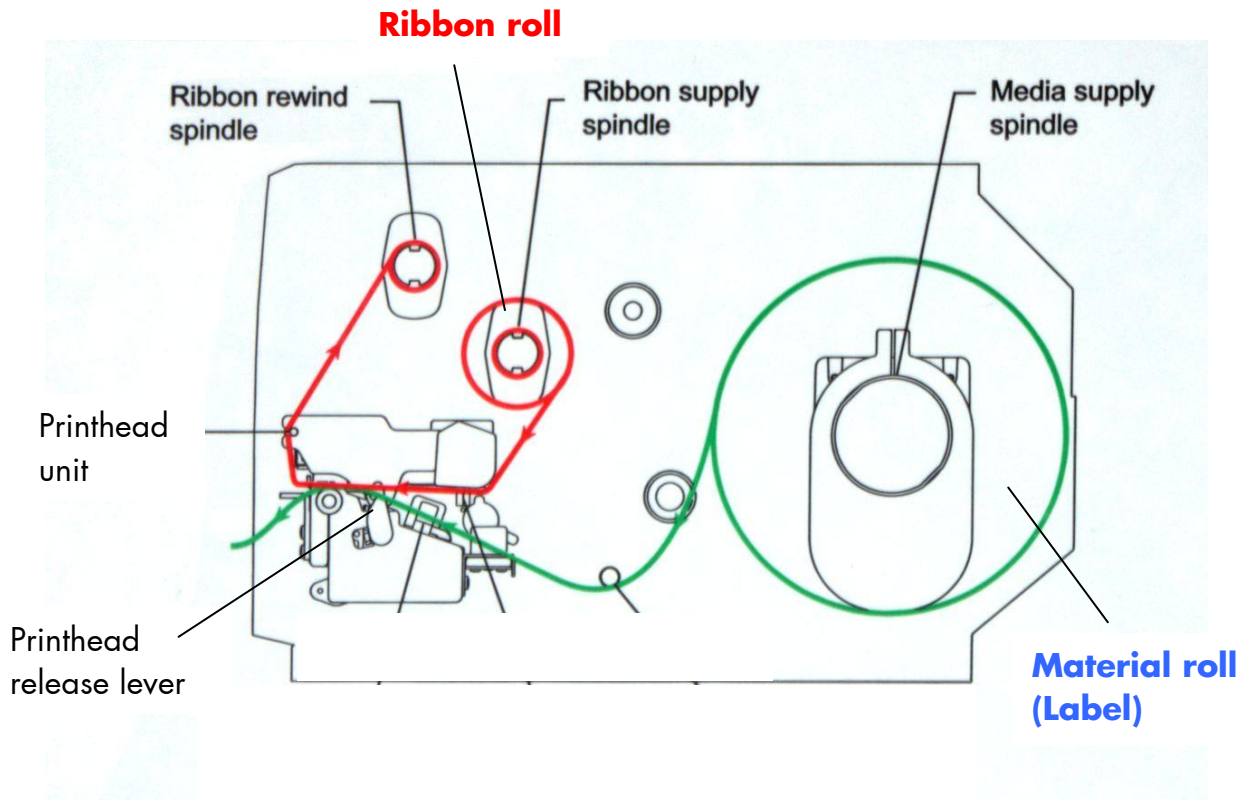

Fig. 4.1.a Schematic drawing: Winding directions of material and ribbon
- a) All ribbons for this printer have to carry the "Ink outside the roll". Please consider the right winding directions shown in fig. 4.1.a and in the following figure.